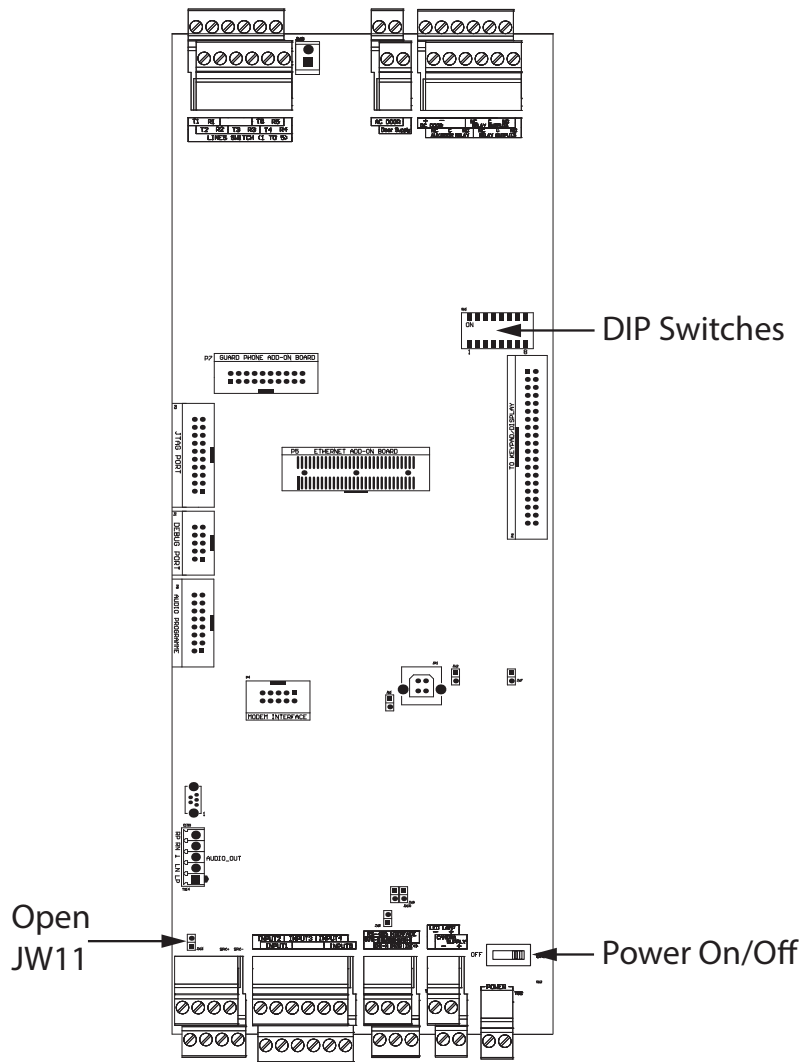

Figure 4 Location of JW11 and DIP switches on the lobby controller board
See Figure 4 for the location of the DIP switches.
1. Set DIP switch 7 to ON. See Figure 4 for the location of the DIP switches..
1. Set DIP switch 7 to OFF. See Figure 4 for the location of the DIP switches.